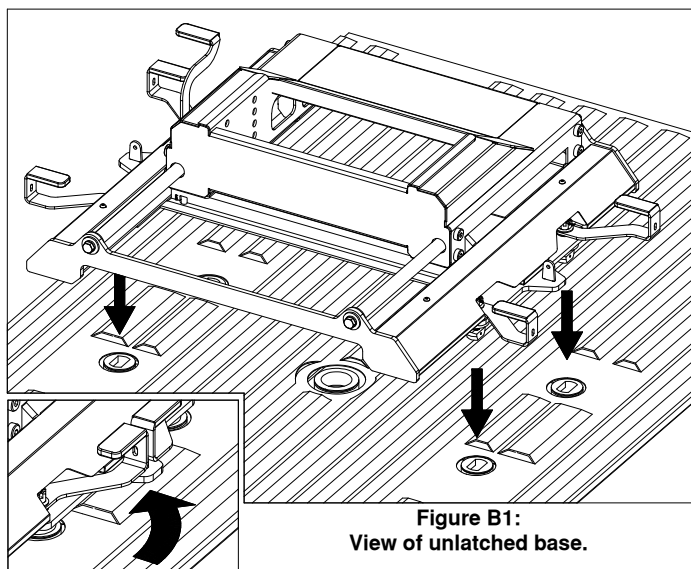

Figure B1:
1. Remove the latch pins from each side of the base and rotate the handles out, see figure B1. Place the base over the attachment points and carefully lower it until the latch cams pass through the floor and the base rests flat against the top of the attachment points.